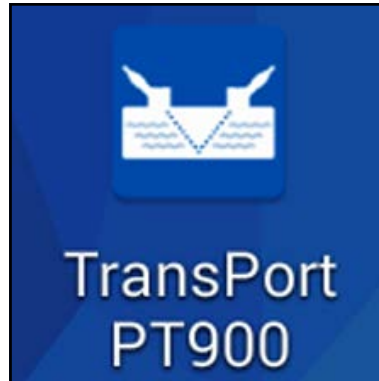

Figure 58: PT900 APP Icon
1. After the APP has been downloaded to your tablet, find the icon shown in *Figure 58* below on the tablet APPS and click on it to launch the APP.